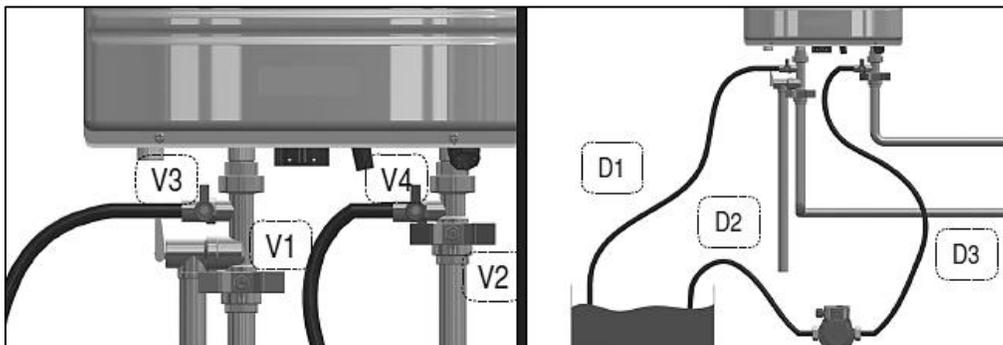

Figure 38 – Flushing the Water Heater
2. Close the shutoff valves on both hot water outlet and cold water inlet lines (V1 and V2). See Figure38.
3. Connect one hose (D1, Figure 38) to the valve (V3) and place the free end in a bucket. Connect one of the hoses (D3) to the circulation pump outlet and the cold water inlet line to valve V4. Connect the other hose (D2) to the circulation pump inlet and place the free end in the bucket.